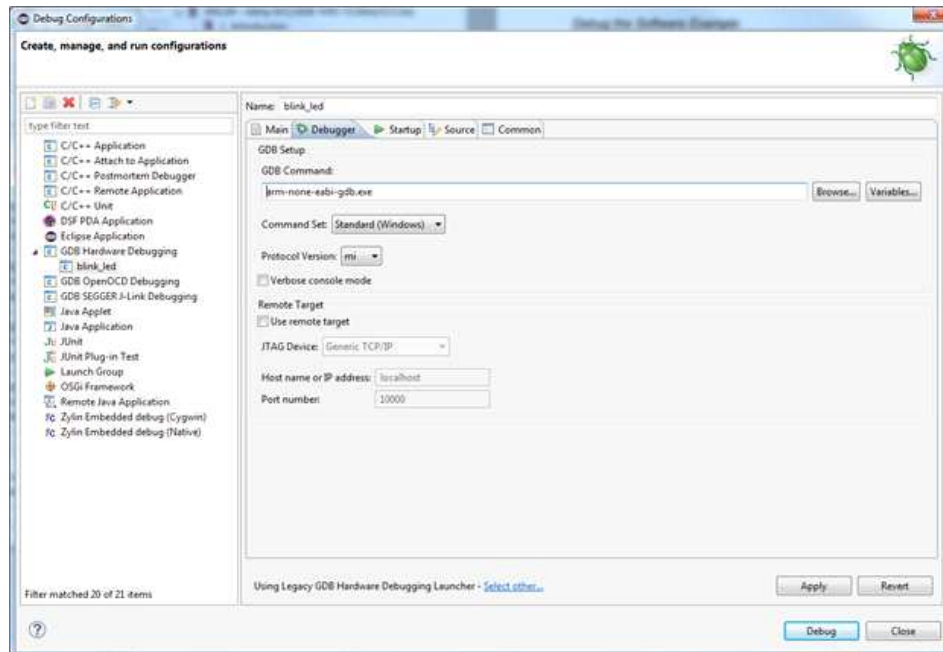

Figure 23. GDB Hardware Debugging – Debugger Tab
6. Select the 'Debugger' tab again. The settings should look like the ones shown in Figure 23.